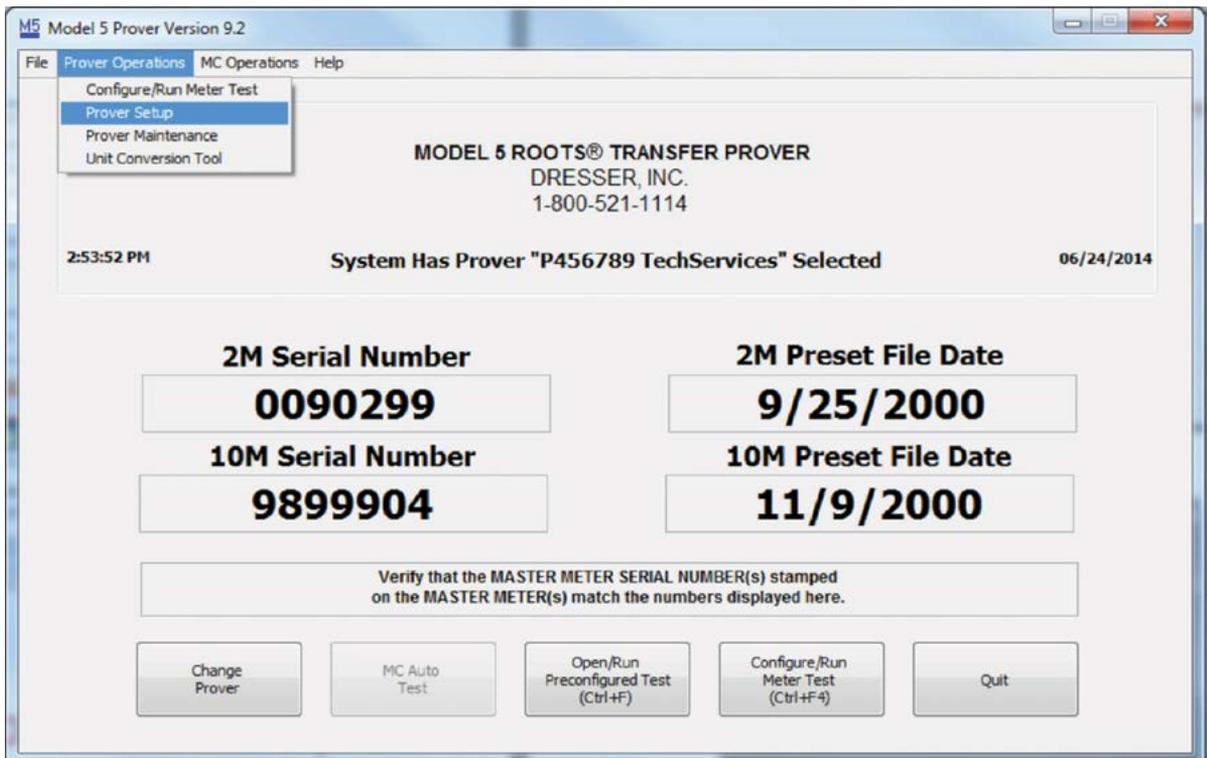

Figure 120: Prover Setup Selection
1. From "Prover Operations", select "Prover Set Up" as shown in **Figure 120**.